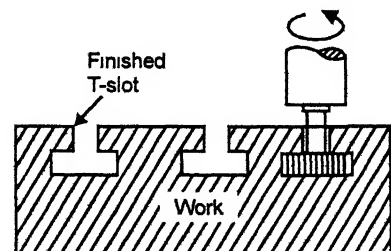

Fig. 10.55. T-slot milling.
**8. T-slot milling.** Refer to Fig. 10.55. In this milling operation, first a plain slot is cut on the workpiece by a side and face milling cutter. Then the T-slot cutter is fed from the end of the workpiece.